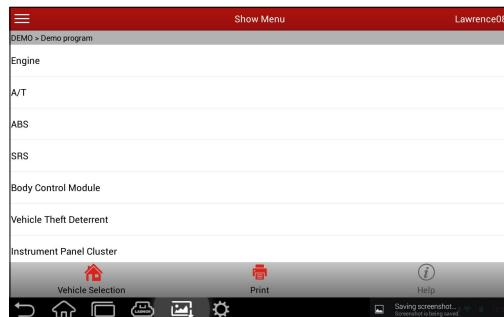

Fig. 5-18
3. Tap “Demo” to enter system selection interface. See Fig. 5-18.